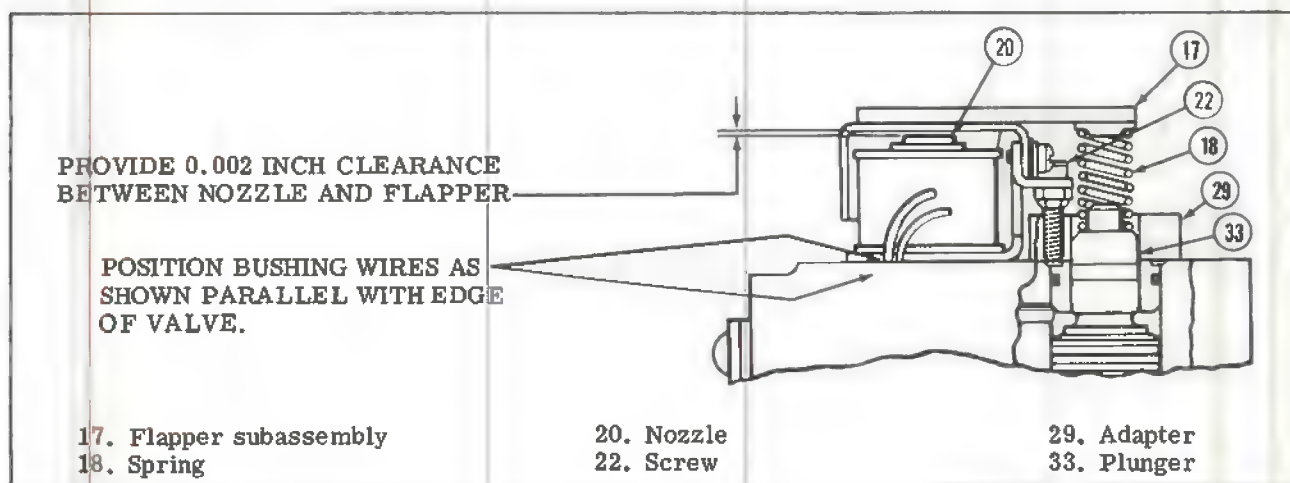
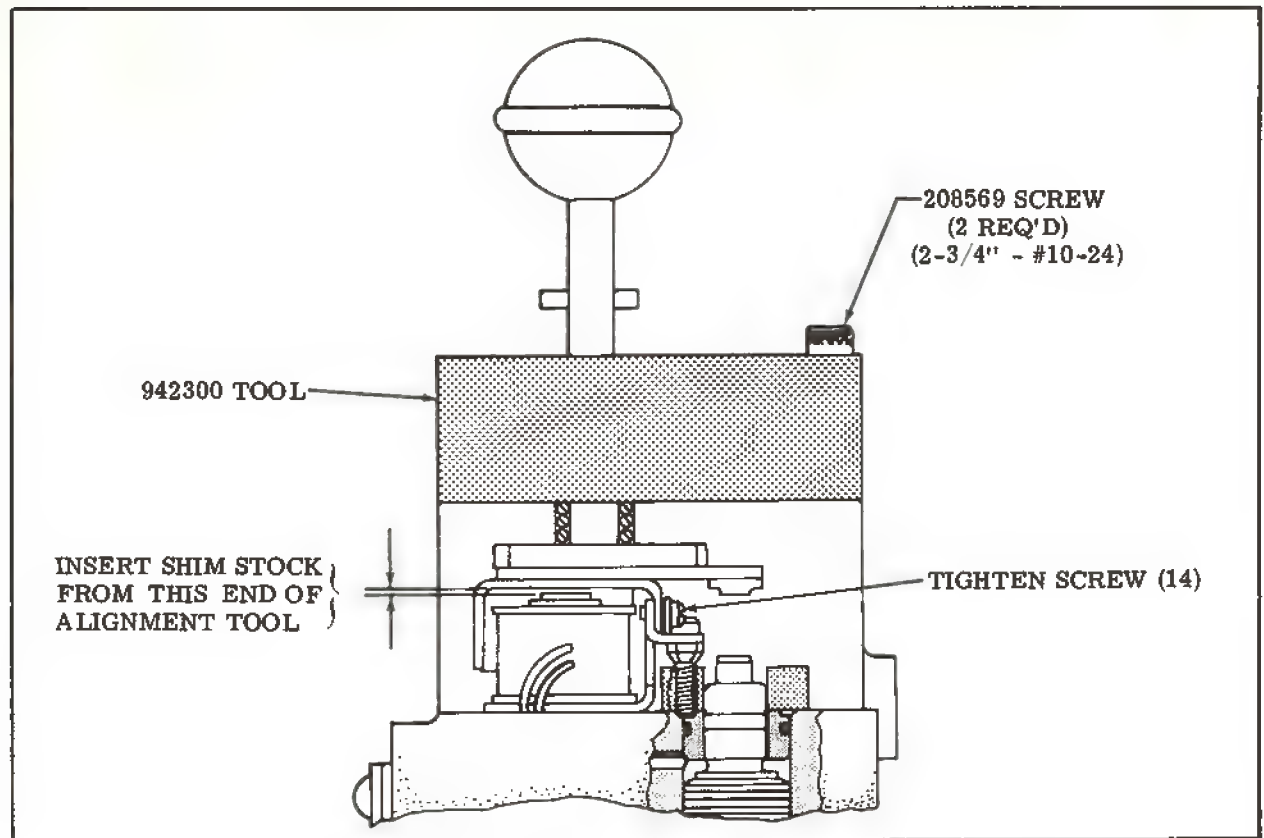

FIGURE 3. DETERMINING FLAPPER TO NOZZLE CLEARANCE
FIGURE 4. INSTALLATION OF FLAPPER ALIGNMENT TOOL (942300).
b. Tighten screws (14) securely. Recheck parallel condition then remove the 0.010 shim.
c. Install spring (18) between flapper sub-assembly (17) and plunger (33). See Figure 3.
d. Insert a 0.002 inch shim between nozzle (20) and flapper subassembly (17). Adjust screw (22) to provide the required clearance. See Figure 3. Final adjustment will be made during test paragraph 3-3. Use a 3/32 (0.093) inch Allen wrench for screw (22). Remove 0.002 shim and Allen wrench.
a. Install flapper alignment tool (942300) as shown in Figure 4. Use the two 208569 screws provided.
c. Loosen screws (14) which hold the flapper to the frame. The flapper will align with the plunger face.
d. Tighten screws (14) securely.
f. Install spring (18) between flapper sub-assembly and plunger (33).
g. Insert a 0.002 inch shim between the flapper subassembly (17) and the nozzle (20). Adjust screw (22) to provide the correct clearance. See Figure 3. Final adjustment will be made during test paragraph 3-3. Remove the shim stock.
13. Assemble parts (13) thru (9). Tighten screws (9) to a torque value of 35 to 40 pound inches. Hand tighten screw (11).
14. Install "O" rings (1) and (2). Parts (3) thru (8) will be installed after the unit has been tested as outlined in Section III.